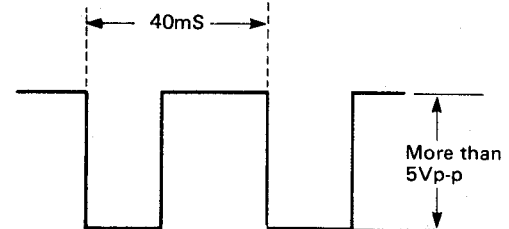

Figure 82.
2. Observe the output of TP707 on oscilloscope, and check its values are as shown in Fig. 82.